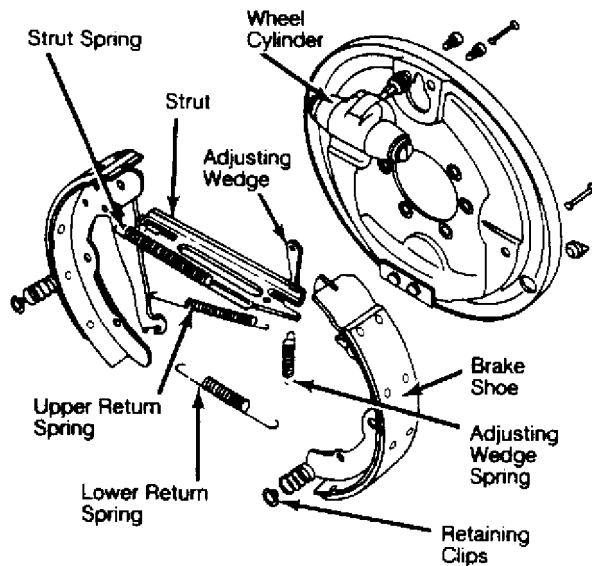

Fig. 6: Exploded View of Rear Brake Assembly (All Others)
1) After removing drum, remove retainer clips, hold-down springs and anchor pins. Remove lower return spring. Disconnect parking brake cable from lever. See Fig. 6.